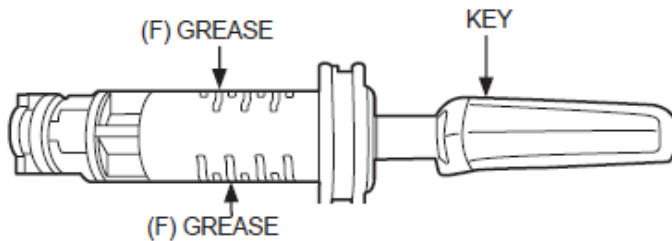

FIGURE 4
8. Apply grease to the outer surface of the Cylinder (D) with the key still inserted, ensuring that the areas above and in between the tumblers are coated, (refer to Figure 4).